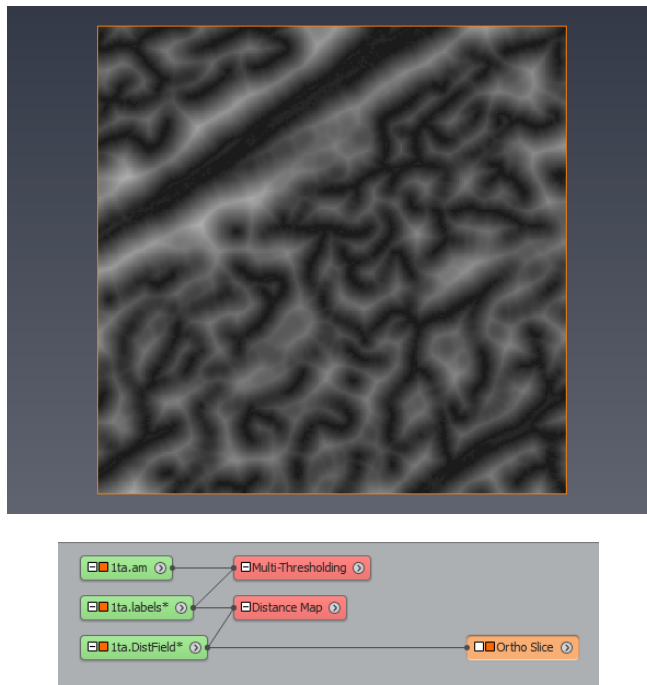

Figure 7.47: Visualization of the Distance Map and the Associated Project View
4. Attach an *Ortho Slice* module to the distance map, see Figure 7.47.